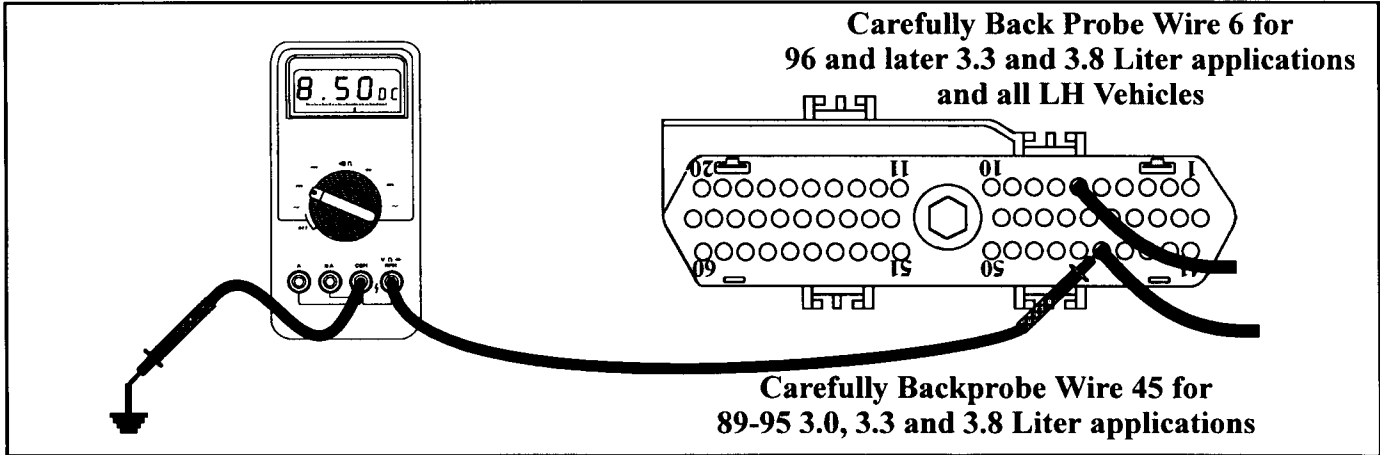
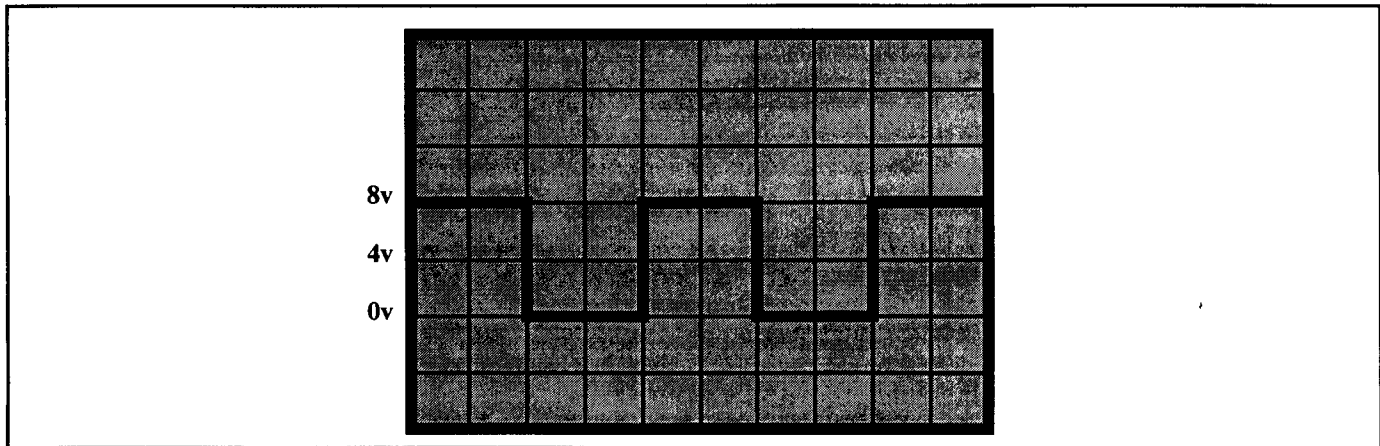

Figure 21
Figure 22
- With a DVOM set to DC volts, carefully back probe wire 45 at the TCM with the positive meter lead and place the negative meter lead to a good known ground (See Figure 21). With the key on and engine off, an 8 to 9 volt pulse should be seen as the crank shaft is turned by hand. If a voltage pulse is observed, the TCM needs to be replaced. If no volts are observed, go to the next step. *Note:* A square wave form is shown in Figure 22 for those that have oscilloscope testing capabilities (Test is performed with vehicle running).